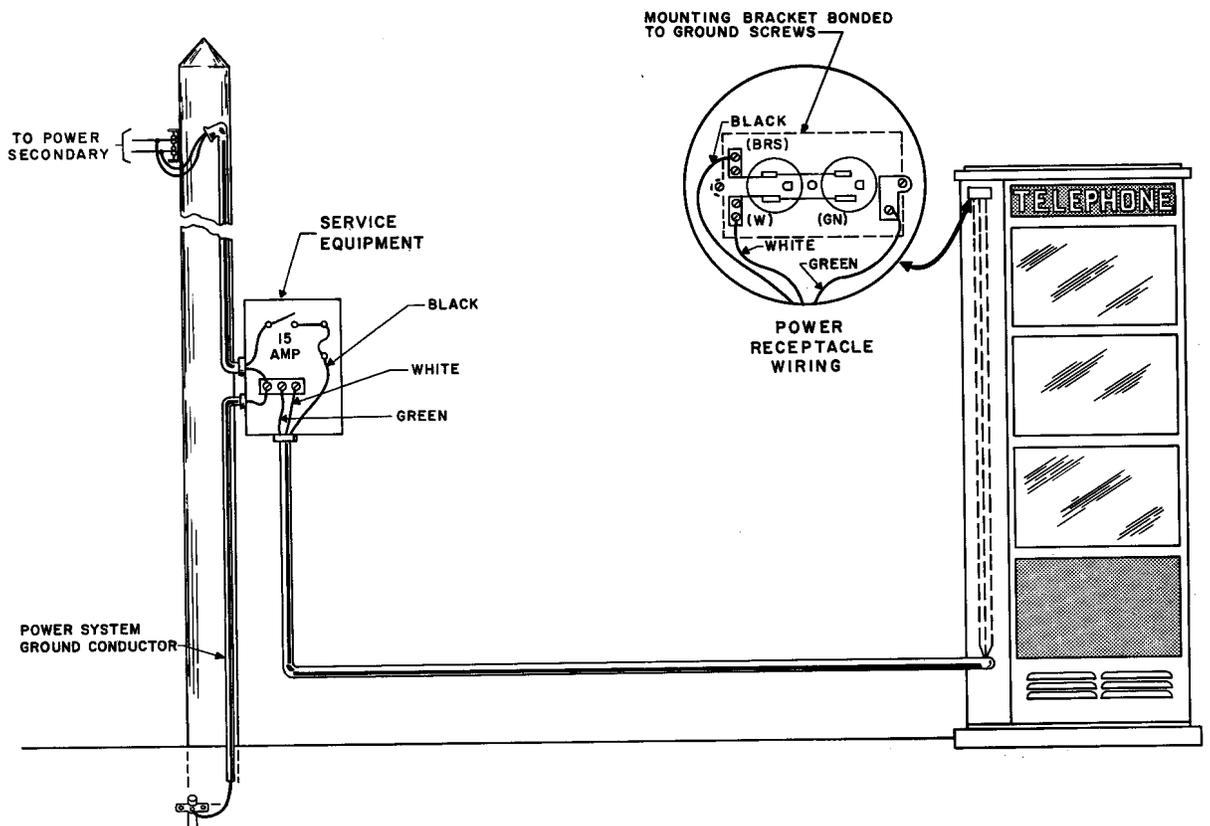

Fig. 2 – Individual Power Service to Booth
8.01 Fig. 2 shows a booth with service entrance equipment. Similar installations would find the fuse and cutout switch mounted on an adjoining post, on the booth, service mast, or an adjoining wall.